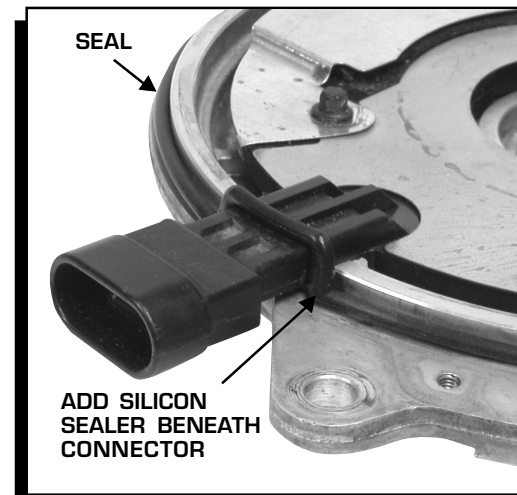

Figure 3 Installing the Distributor-to-Isolator Seal.
1. Locate and install the distributor-to-isolator seal then position the isolator in place on the distributor (Figure 3). Note the fresh air inlet port on the isolator (Figure 4).